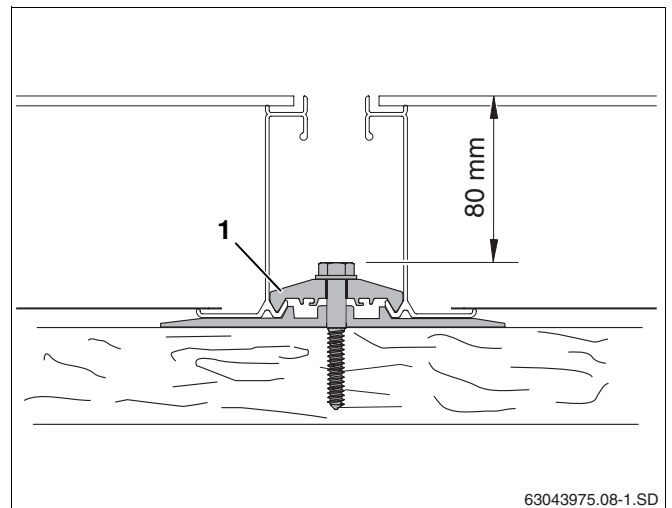

Fig. 27 Screwing in double-sided clamp
- Tighten the screw on the double-sided clamp (Fig. 27, **Item 1**). Use a size 10 socket wrench with a minimum length of 80 mm for this purpose.